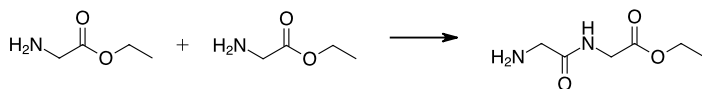

Figure 2: Fishers early method for peptide synthesis.
5. Figure 2 on the next page presents his synthesis of a dipeptide of glycine.